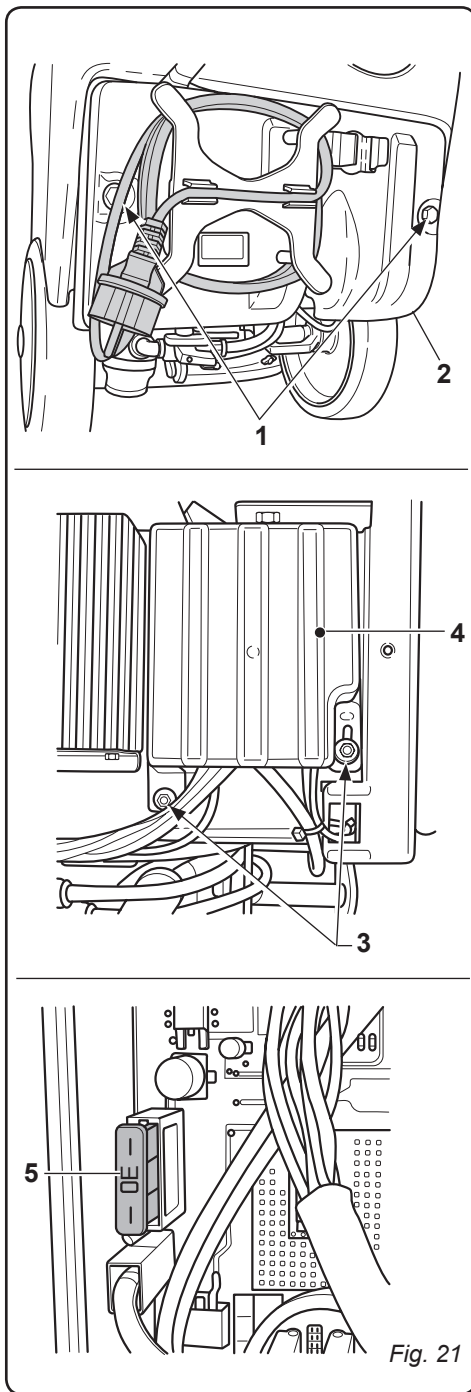

Fig. 21
11.1.h - Replacing the fuses (Fig. 21)